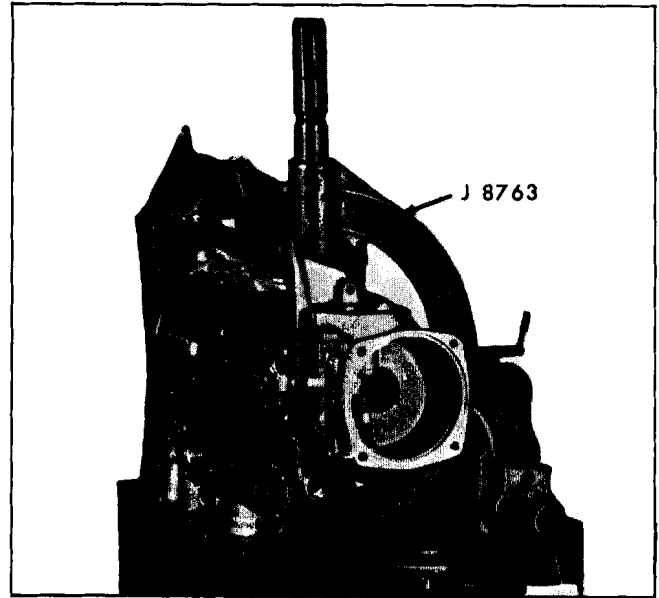

Fig. 7G-126 Transmission Fixture in Vise
1. Position transmission case in Fixture J 8763-01 into a vise with the case governor face up (Fig. 7G-126).
2. Clean off excess stock from the governor o-ring seal-to-case mating surface with a file (Fig. 7G-127).